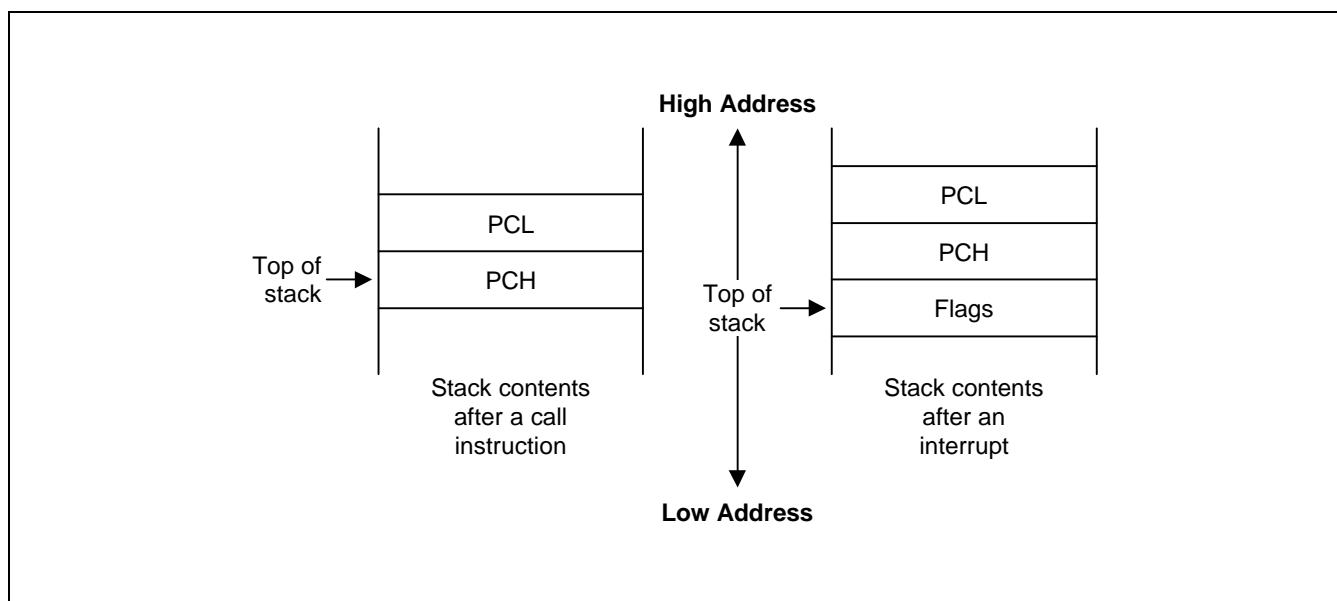

Figure 2-15. Stack Operations
The stack address is always decremented *before* a push operation and incremented *after* a pop operation. The stack pointer (SP) always points to the stack frame stored on the top of the stack, as shown in Figure 2-15.